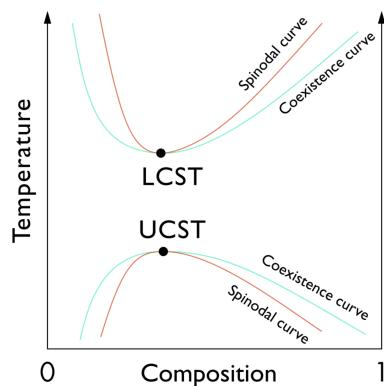

Figure 2.14: The upper and lower critical solution temperatures.
- Some systems, such as the idealized one sketched in Figure 2.14, exhibit both (or more/other!) types of behavior.